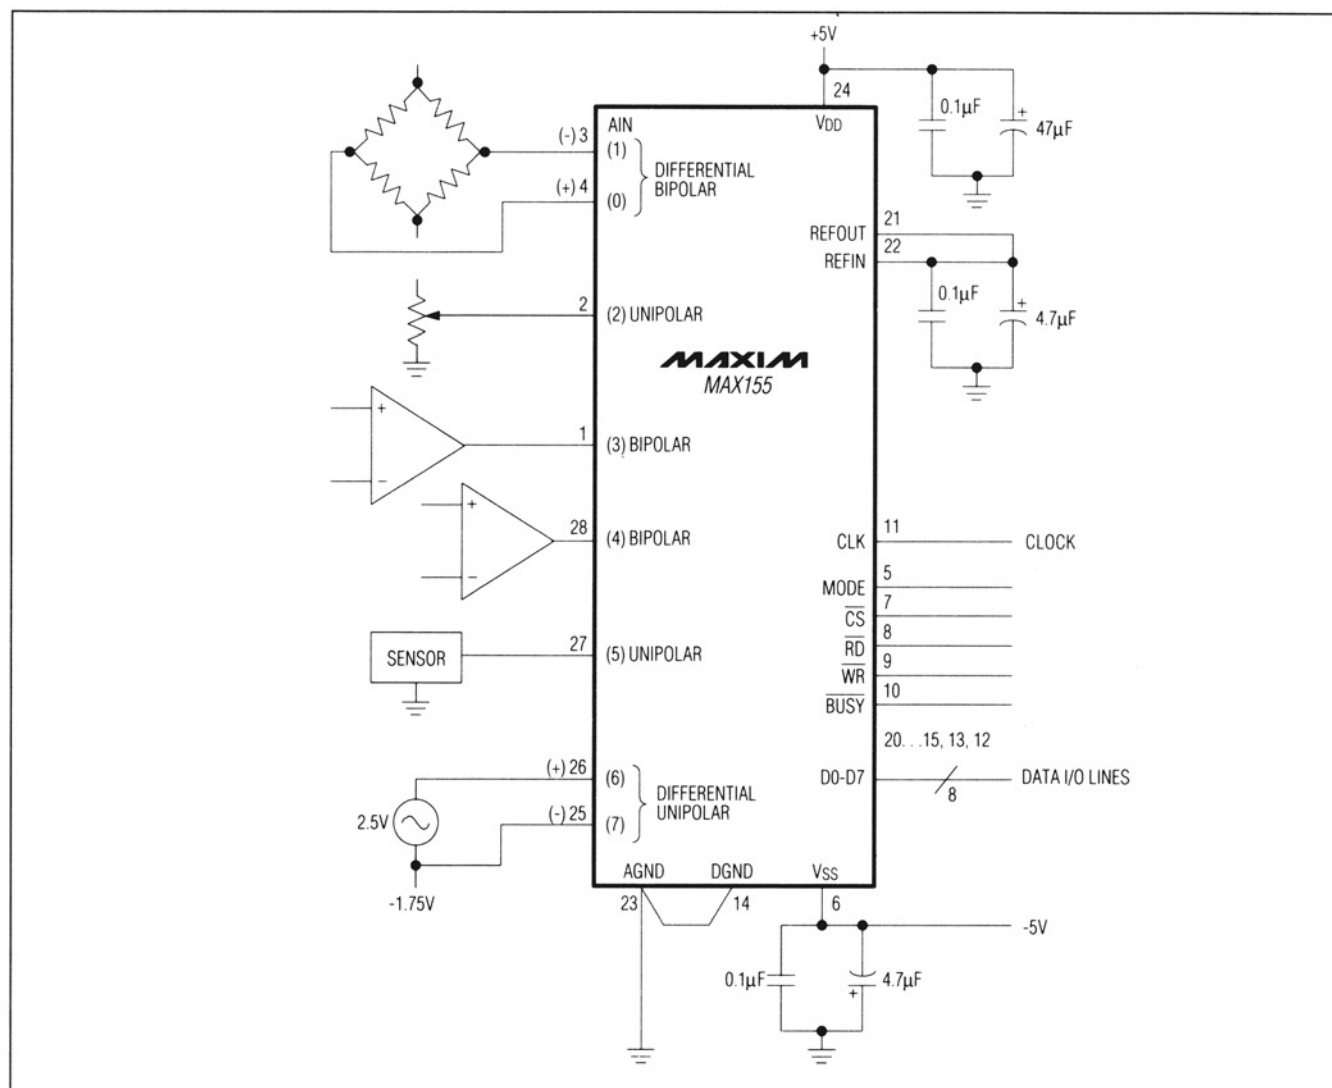

Figure 10. MAX155/MAX156 Typical Operating Circuit
where N is the number of channels converted. This includes one clock cycle of uncertainty. For a single channel and 5MHz clock, the conversion time is $(9 \times 1 \times 2)/5MHz = 3.6\mu s$. For the MAX155, the maximum conversion time for 8 channels is $(9 \times 8 \times 2)/5MHz = 28.8\mu s$. In the application example (Figure 10), six conversions are configured, and the conversion time is $(9 \times 6 \times 2)/5MHz = 21.6\mu s$.
MAX155/MAX156 address and configuration inputs for this example were determined by selecting the desired channel configurations in Tables 2 and 3. Figure 10 illustrates the configuration outlined in Table 5.
3. Data is read from RAM with $\text{INH} = \text{L}$ and consecutive $\overline{\text{RD}}$ strobes. Note that in the 6 channel configurations described in this example (Figure 10), 6 $\overline{\text{RD}}$ pulses access all available data, starting with the differential channel (1,0). Additional $\overline{\text{RD}}$ pulses loop around, accessing the lowest channel data again.